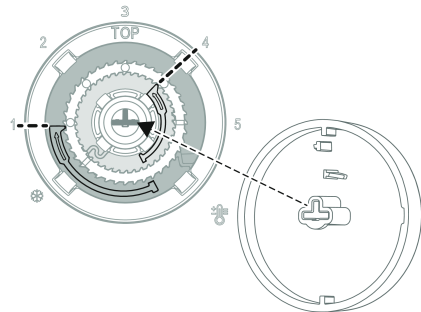

Figure 4: Setting the temperature limit (before/after)
- Replace the control knob, observing the coding (Fig. 4, bottom) of the control knob and rotary axle.